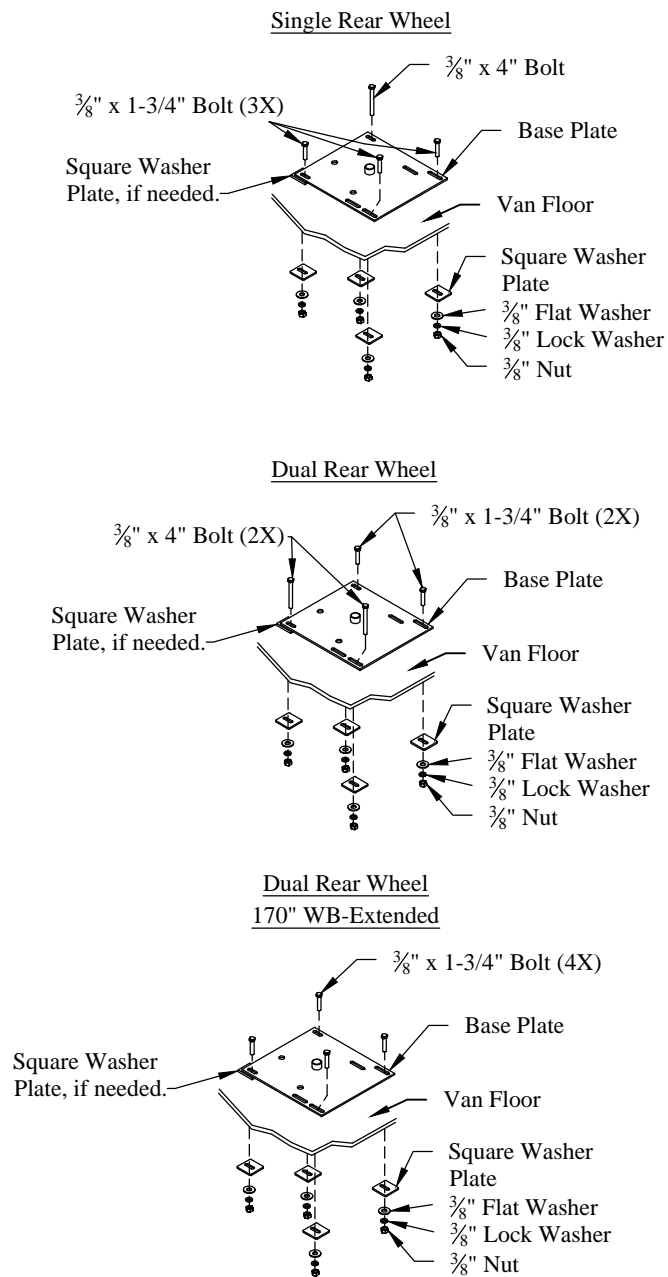

Figure 4: Base plate hardware.
9. **Bolt** the base plate to the vehicle floor using the hardware provided (Figure 4).